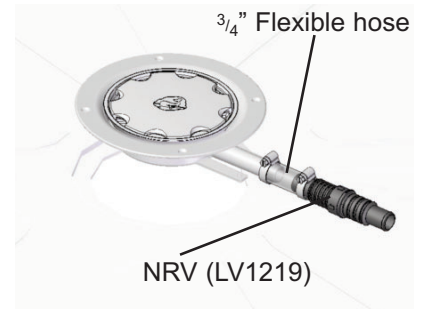

Fig. 5 Large Gulley IC Installation
- Bring hose through opening in shower tray and securely attach to the NRV housing (Fig 5).